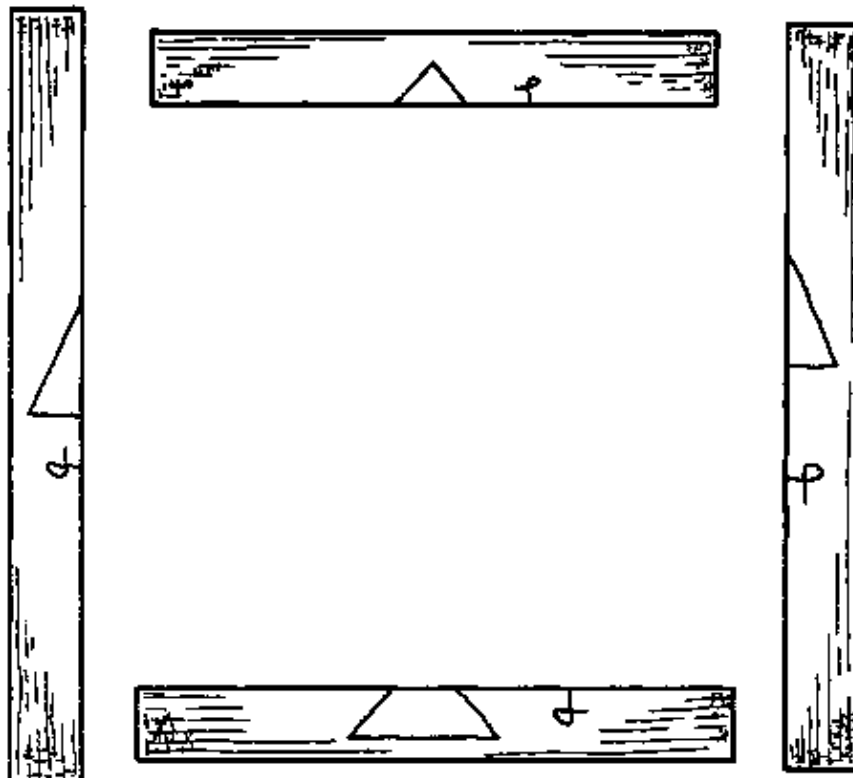

Fig. 1
- Select and prepare the timber according to the sequence given in the section on preparation of timber. Lay out the various members as they will be when they are finally assembled into a frame (Fig. 1).